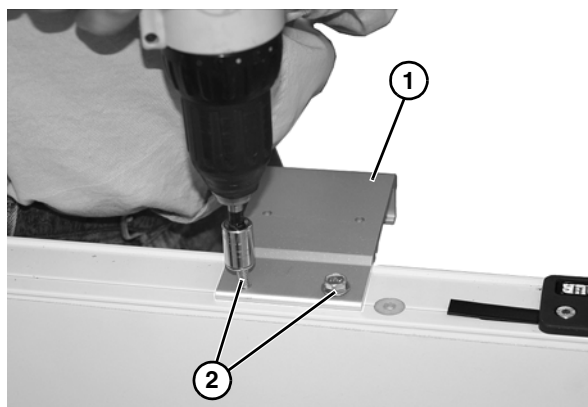

Figure 11
3. Position and hold bracket (**Figure 11, item 1**) to side rail. With a standard M6-1.0 or 1/4-20 screw, install screws (**Figure 11, item 2**) with cordless drill or equivalent. Do not fully tighten with drill.